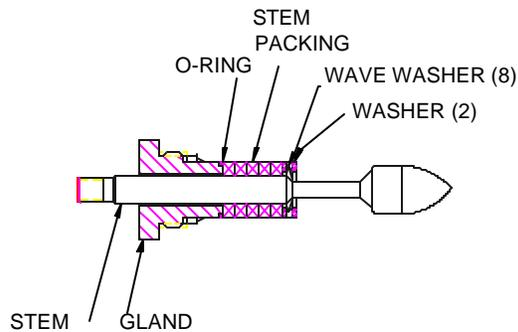

Figure 4
- c. Place spring (140) into open end of check valve.
- d. Thread the nut (4) onto the nozzle (61). The nut should be threaded onto the nozzle until it bottoms out on the nozzle hex.
- e. Assemble O-ring (39) into groove in the nozzle. Lubricate the O-ring before assembly.
- f. Thread the nozzle into the orifice body (which is vertical on the table) with retainer bar (116) in place, until there is approximately a 3/8" gap between the nut on the nozzle and the end of the orifice body.
- i. Assemble nozzle (61) into jet (82). The nozzle should be threaded into the jet as far as it will go and tightened.
- a. Holding the steam valve body (11) upside down (note nameplate orientation), insert the threaded end of the stem (17) into the threaded end of the body until the stem bottoms out on the seat. Assemble washers (125A), wavewashers (125), stem packing (25), O-ring (39D) and stem packing gland (19) over the stem. See Figure 4.